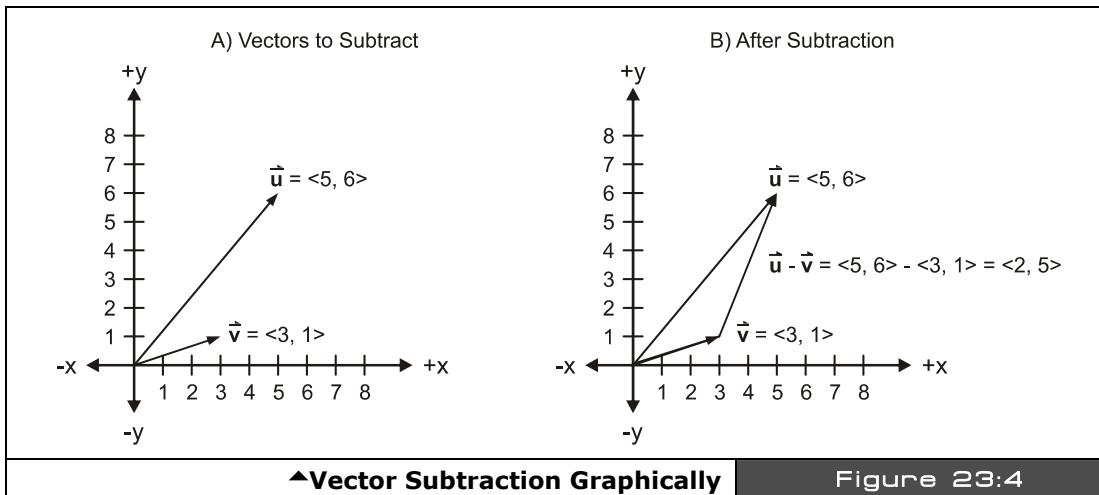

Figure 23:4
Referring to Figure 23:3(A) we see two vectors  $\mathbf{u} = \langle 1, 2 \rangle$  and  $\mathbf{v} = \langle 3, 4 \rangle$ . To add these vectors algebraically, simply add the components like so:
...which makes sense. But, what's even cooler is that they add geometrically as well. Take a look at Figure 23:3(B). Here we see the addition in action. A copy of vector **v** is placed at the tip of vector **u**, then the result vector is the vector from the origin (0,0) to the tip of the copy of **u** which is indeed  $\langle 4, 6 \rangle$  if you inspect the figure. Thus, to add vectors graphically you simply translate the vector's tail you want to add to the tip of another vector and then wherever the tip of the addend vector winds up relative to the origin is the sum.
Vector subtraction can be performed algebraically just like vector addition. Take a look at Figure 23:4(A), here we see two vectors  $\mathbf{u} = \langle 5, 6 \rangle$  and  $\mathbf{v} = \langle 3, 1 \rangle$ . To subtract these vectors we simply subtract components like so:
Now take a look at Figure 23:4(B). To subtract vectors geometrically you draw a new vector between the vectors being subtracted with the terminal end at the first vector in the difference and the initial end at the second vector in the difference. Thus, in this case to subtract  $\mathbf{u} - \mathbf{v}$ , you draw a vector from  $\mathbf{v}$  to  $\mathbf{u}$  with the arrow at the end.